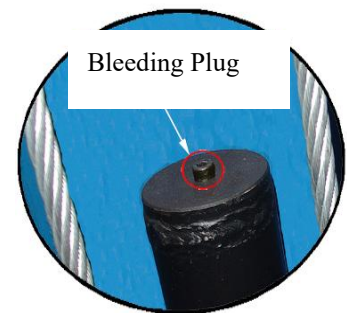

Fig. 42
3. Bleeding air from oil cylinder (See Fig. 42)